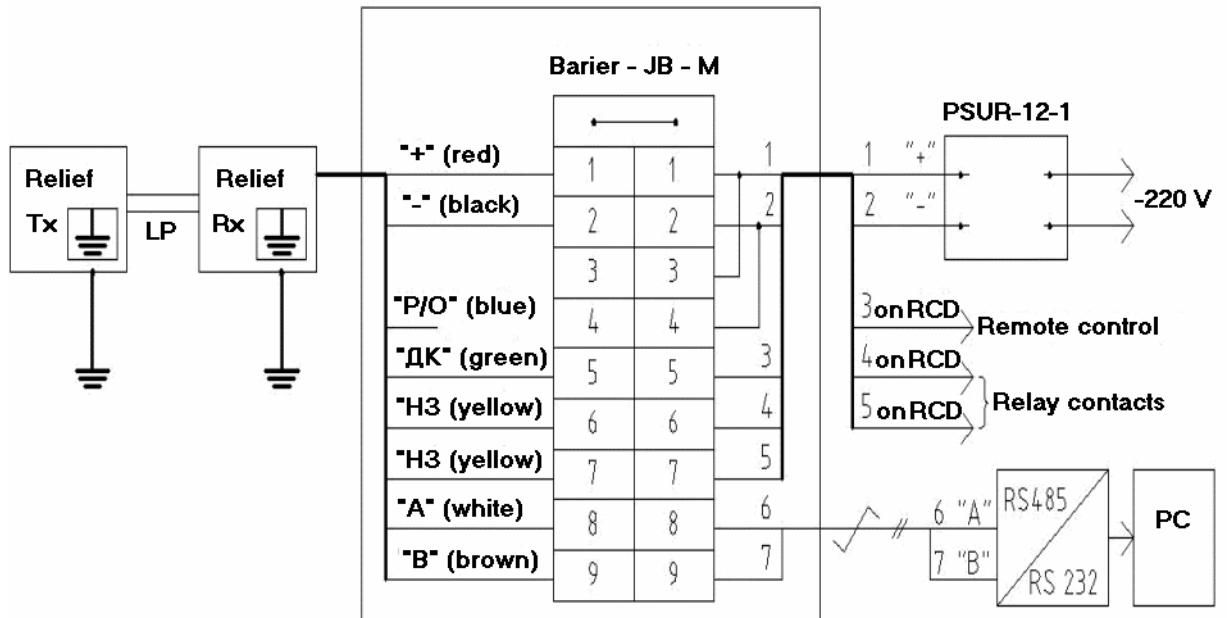

Fig.2.8 Connection of the Detector to the Junction Box of the automatic adjustment mode
2.7.1.1. In order to switch ON the automatic adjustment mode it is necessary to connect P/O wire of the output cable to contact “+” according to fig.2.8.